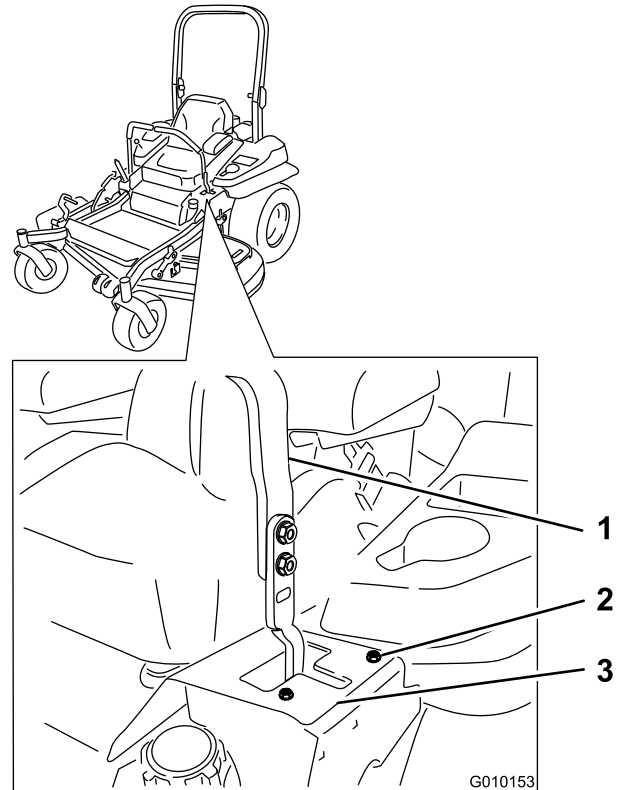

Figure 64
6. If it tracks to the right, loosen the bolts and adjust the left stop plate rearward on the left T-slot until the machine tracks straight (Figure 64).
7. If it tracks to the left, loosen the bolts and adjust the right stop plate rearward on the right T-slot until the machine tracks straight (Figure 64).
8. Tighten the stop plate (Figure 64).